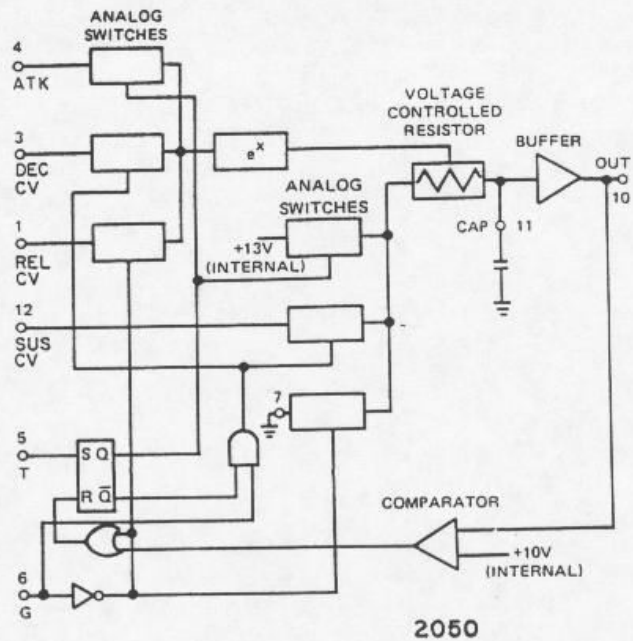

Figure 2-14
The FILT and AMP ENV (U406, U401). GENs are based on the SSM 2050 ENV GEN (see Figure 2-14). Electronically-switched CVs charge and discharge C418 (C419) through an exponential voltage-controlled resistor. The ADSR states are defined by internal logic clocked from the GATE and TRG inputs. An ATK flip-flop (FF) is set by the TRIG pulse through C402 (C401) and reset by either -GATE or the attack comparator sensing +10V OUT. Then the ATK state = GATE AND -ATK FF, and REL = -GATE. Each state is characterized by a nominally exponential approach to a characteristic voltage: 0V for ATK, DEC, and REL, +13V for SUS.